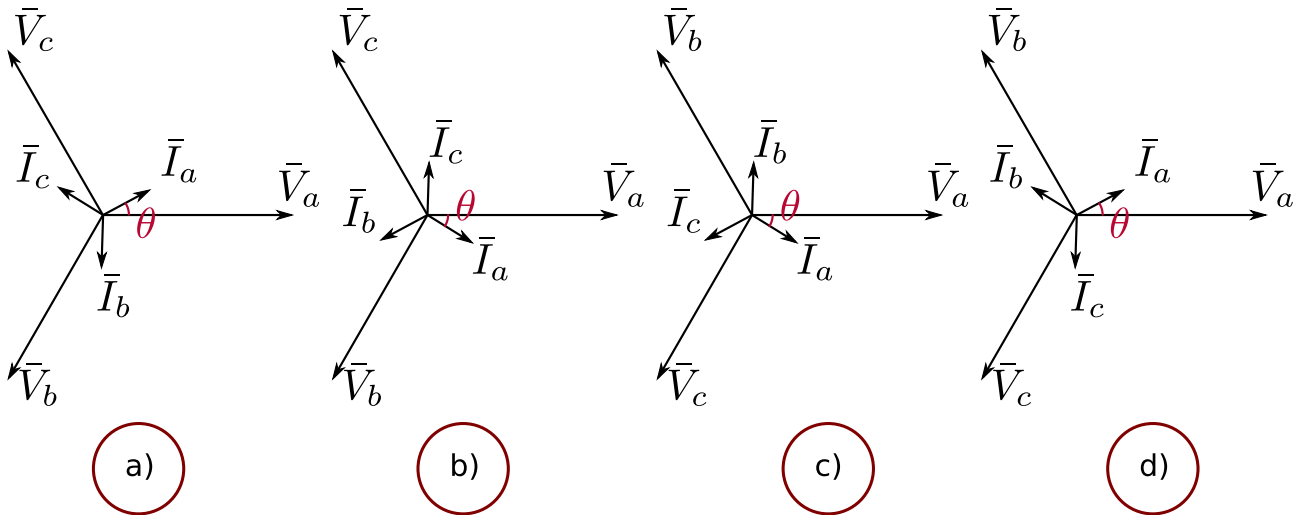

Figure 6: Phasor diagram
- Which of the following phasor diagrams shown in Fig.6 is correct?
With  $\theta = \arccos(\text{PF}) = 31.8^\circ$  the phasor diagram 2 shown in Fig.6 is correct because: